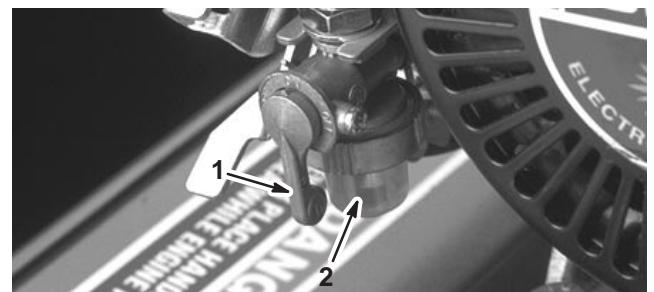

Figure 34
1. Close the fuel shut off valve and unscrew the bowl from the filter body (Fig. 34).